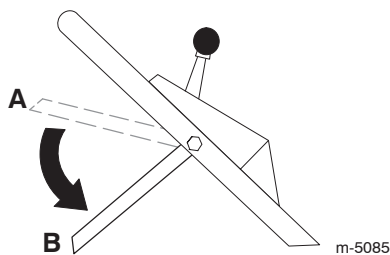

Figure 17
10. Release the blade control bail; refer to position **B** in Figure 17. You should hear a “bang.” The blade should stop in 3 seconds.
2. Move the blade control bail down to its lowest position (Position **B** in Fig. 17).